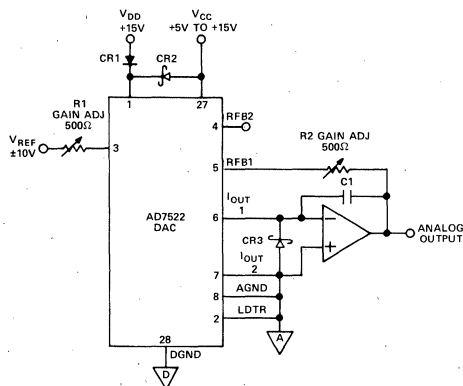

Figure 3. Unipolar Binary Operation (2-Quadrant Multiplication)
APPLICATIONS (Note: Protection Schottky CR3 in Figure 3 and CR3, CR4 in Figure 4 are not required when using TRI-FET amps such as the AD542 or AD544).
Figure 3 shows the analog circuit connections required for unipolar operation. The input code/output voltage relationship is shown in Table 1.
1. CR1 and CR2 on Figures 3 and 4 protect the AD7522 against latch-up V_{CC} exceeds V_{DD} , and may be omitted if V_{DD} and V_{CC} are driven from the same voltage.
2. Diodes CR3 on Figure 3 and CR3 and CR4 on Figure 4 clamp the amplifier junction to $-300mV$ if they attempt to swing negative during power up or power down. The input structures of some high-speed op amps can supply substantial current under the transient conditions encountered during power sequencing. It is recommended that the PC layout be able to accommodate the diodes.